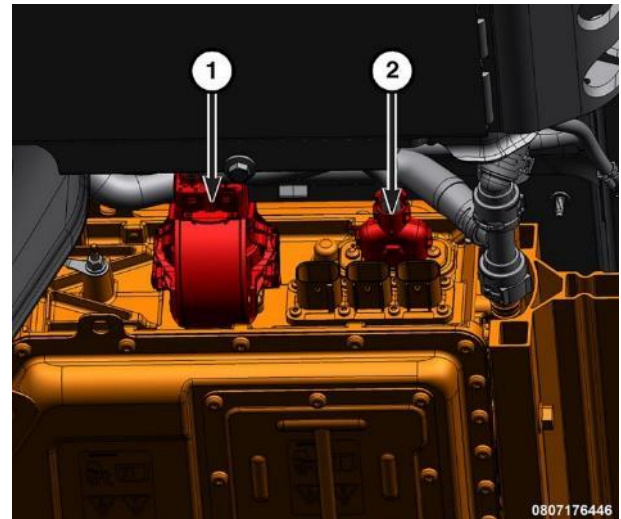

Figure 44 – HV Battery - Primary
26. Disconnect and install protective covers on the high voltage cable connector (Figure 44).
27. Disconnect and install protective covers on the low voltage wire harness connector (Figure 44).